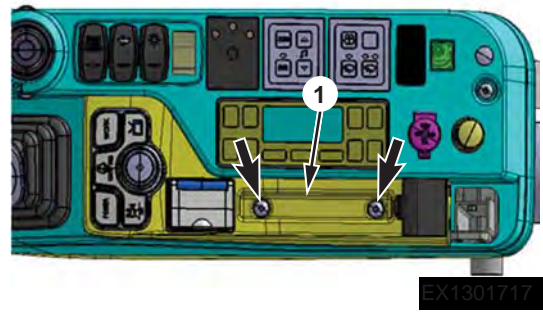

Figure 16 Stand RH
- C. Remove rubber and screws, remove cover (1, Figure 16) from stand upper cover, and disconnect the connector of harness which connect with switches.